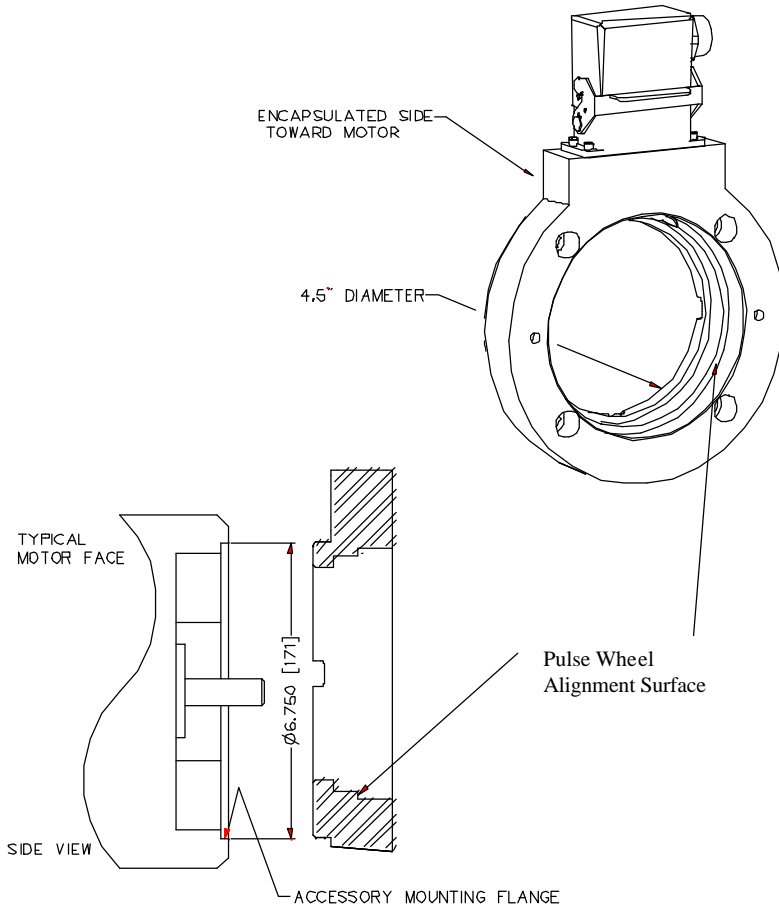

Figure 4: Typical Motor Mounting
To install the tachometer frame: (see Figure 4)
2. Rotate the pulse wheel so the words "THIS SIDE OUT" (or stamped letter "Z") is visible, away from the motor. Slide the pulse wheel onto the motor shaft. Push the wheel along the shaft until the edge of the pulse wheel is flush with the machined recess in the tachometer frame (see Figure 4). The purpose of this step is to properly center the pulse wheel under the sensor.